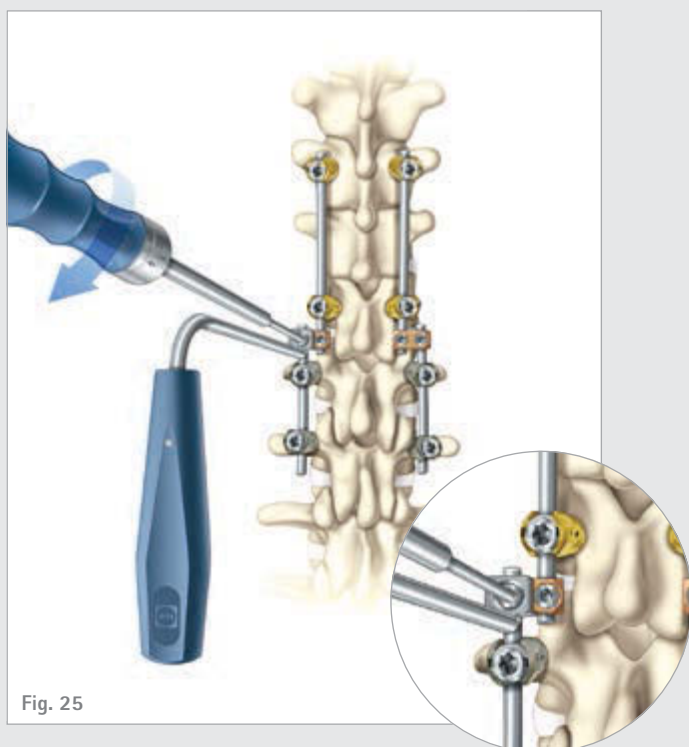

Fig. 25
- Final tighten by applying 4 Nm (36 in / lbs) of torque using the Cross Connector Torque Wrench (FW207R) and Rod-To-Rod Connector Counter Torque Device (FW495R). (Fig. 25)